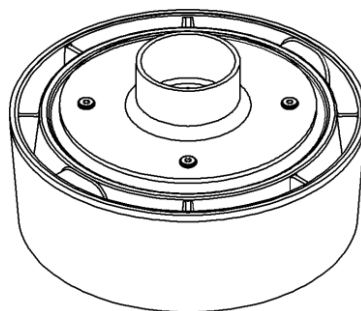

FIG. 12
2. After finishing assembly, it will be shown as below. (FIG.12)